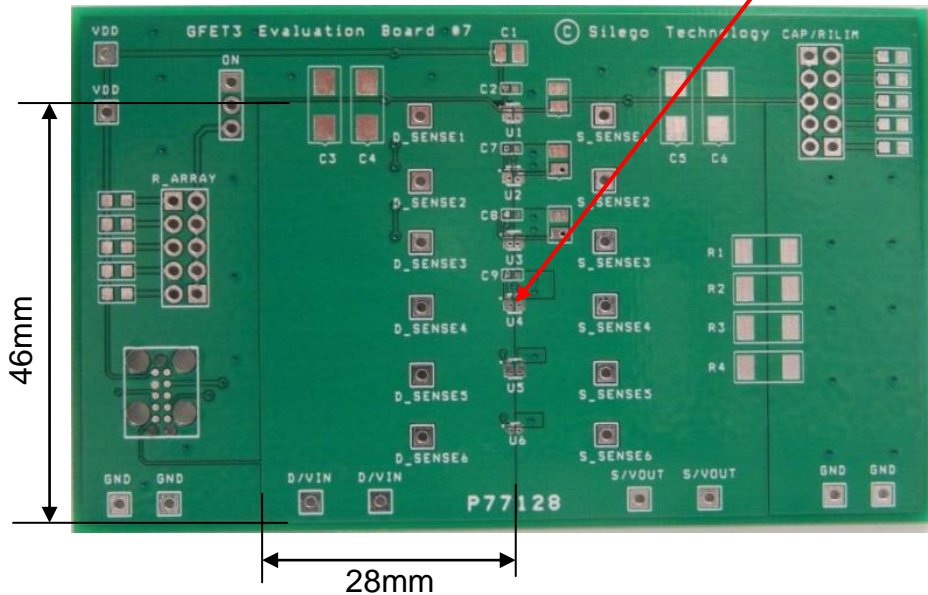

Figure 3. SLG59M1470V Evaluation Test Board
2.3. The D/VIN and S/VOUT pins carry significant current. Please note how the D/VIN and S/VOUT pads are placed directly on the power planes in Figure 3, which minimizes the $R_{ds(ON)}$ associated with long, narrow traces. The D/VIN, S/VOUT and GND pins dissipate most of the heat generated during high-load current condition. The layout shown in Figure 3 is illustrating a proper solution for heat to transfer as efficiently as possible out of the device.